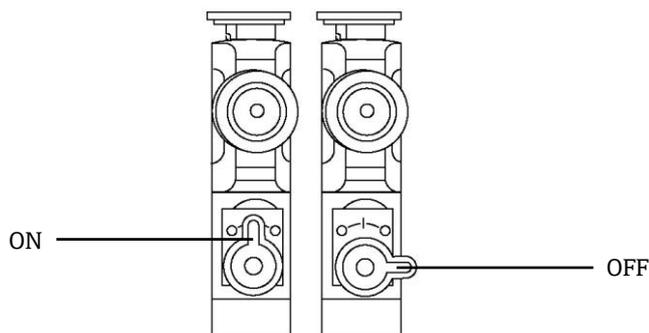

Figure 1. Rxn-10 probe showing the ON and OFF shutter positions
- If using an Rxn-10 probe, turn laser output shutter to the **OFF** position before the removal or attachment of optics (see Figure 1).